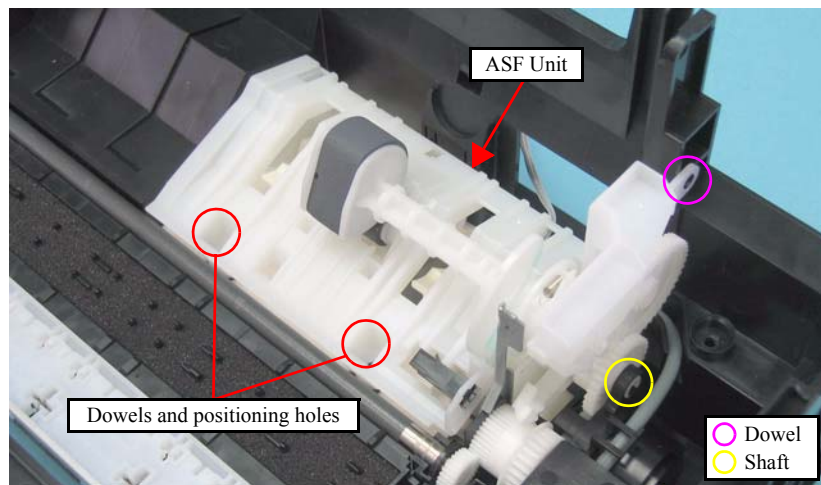

Figure 4-81. Removing the ASF Unit (2)
- When installing the ASF Unit, be sure to align the dowels (x2) of the Base Frame with the positioning holes (x2) of the ASF Unit as shown in Figure 4-81.